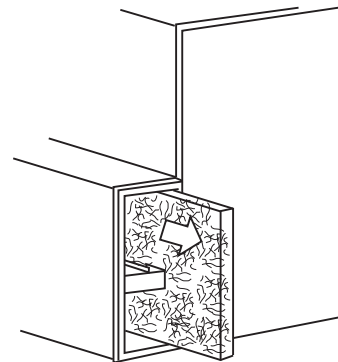

Fig. 29 - Removal of Filter from Side Blower Cabinet
- b. Slide air filter out of furnace. Keep dirty side up (if dirty) to avoid spilling dirt. See Fig. 29 and 30.
7. Replace blower access panel and main furnace door (See Fig. 33 and 34) or filter cabinet door (Fig. 29 and 30).